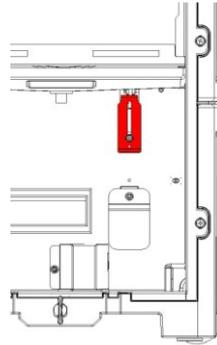

Fig. 7: Cover plate without water collecting tank
3. Slacken the screw on the upper cover plate, and position the cover plate in front of the recess (fig. 7). Retighten the screw.